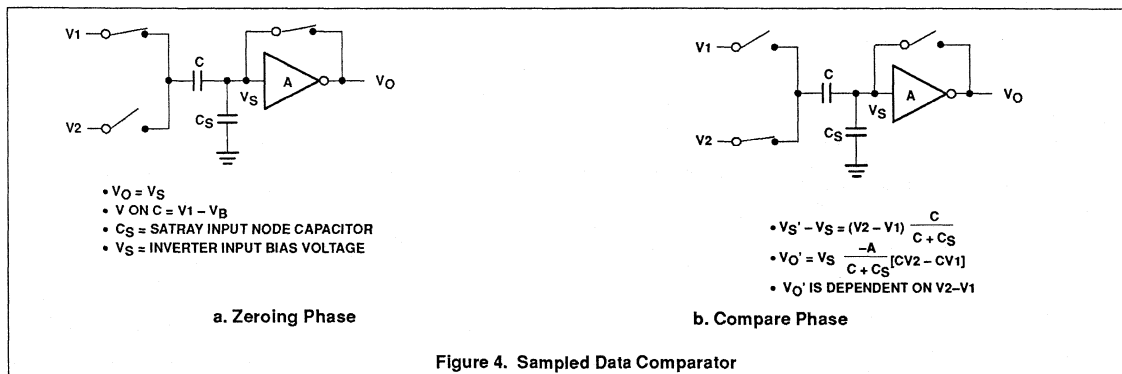

Figure 4. Sampled Data Comparator
Each comparator in the ADC0820 consists of a CMOS inverter with a capacitively-coupled input (Figure 4). Analog switches connect the two comparator inputs to the input capacitor (C) and also connect the inverter's input and output. This device in effect now has one differential input pair. A comparison requires two cycles, one for zeroing the comparator, and another for making the comparison.